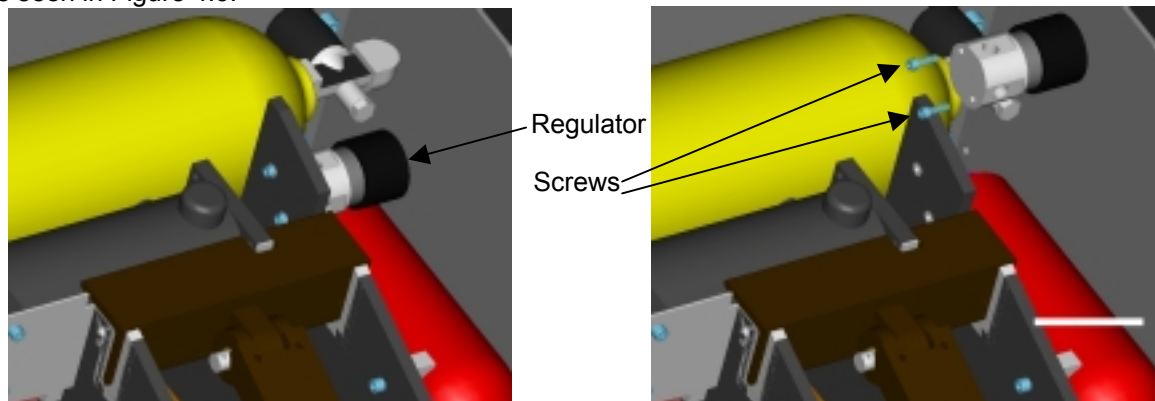

Figure 4.3 – Regulator
The regulator drops the 2000 psi pressure from the reservoir tank to the 250 psi operating pressure of the pneumatic system. The high side of the regulator attaches to the reservoir tank and the low side goes to the buffer tank. The hoses use 1/4" NPT fittings. The regulator is located on the right bulkhead as seen in Figure 4.3.
1. Align regulator over holes as shown in Figure 4.3.